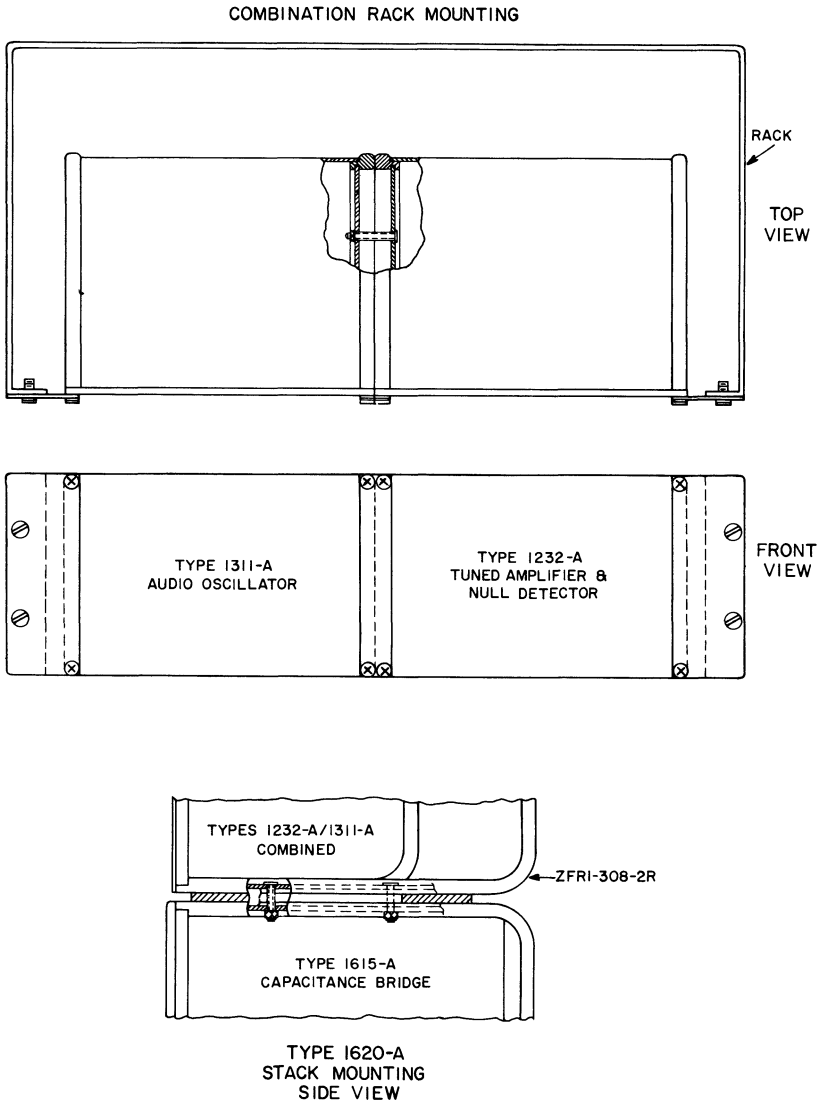

Figure 2-1. Mounting options.
2.2.2 COMBINATION. To combine the Type 1311-A in a standard relay-rack mounting configuration with the Type 1232-A Tuned Amplifier and Null Detector, the Type 480-P316 Adaptor Plate Set should be used. This set consists of a pair of adaptor plates which attach to the outside edges of the front panels of the instruments and an adaptor strip which joins the instruments (see Figure 2-1). The ½-inch mounting screws in the corners of the instrument are used to attach the adaptors. The end frames should be left in place, but the rubber mounting feet may be removed.
2.2.3 TYPE 1620-A PRECISION CAPACITANCE MEASURING ASSEMBLY. The Type 1311-A is an integral part of the Type 1620-A Precision Capacitance Measuring Assembly (see Figure 2-1). As such, it is mounted in combination with the Type 1232-A Tuned Amplifier and Null Detector, as described in paragraph 2.2.2. To the combined assembly is added a pair of large-sized end frames (part No. ZFRI-308-2R). The complete assembly is then stack-mounted on top of a Type 1615-AM Capacitance Bridge and the large end frames fastened together by machine screws.